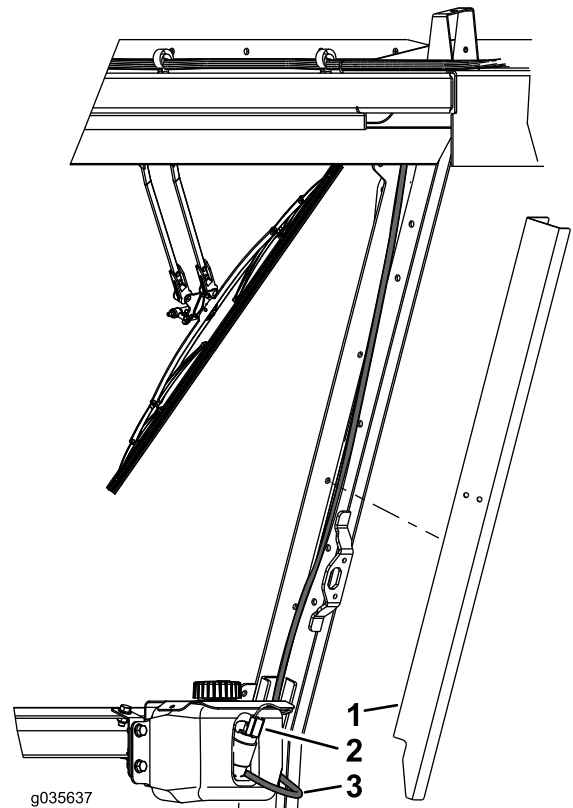

Figure 8
3. Remove the cover from the post (Figure 8).
4. Install the hose to the pump in the reservoir and route it to the wiper motor (Figure 8).
5. Connect the harness connector to the reservoir pump (Figure 8).
9. Install the cover to the post (Figure 8).